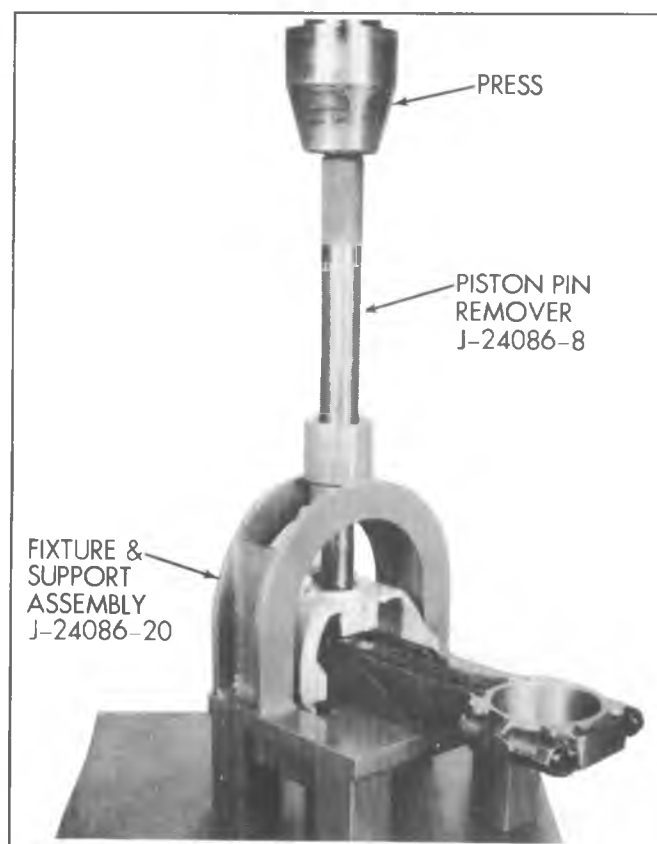

Fig. 6A5-52--Removing Piston Pin
3. Place connecting rod and piston assembly on Tool J-24086-20. Using an arbor press and piston pin remover, J-24086-8, press the piston pin out of connecting rod and piston (fig. 6A5-52).